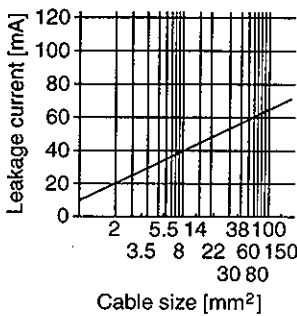

Fig.13.1 Leakage Current Example (Ig1,Ig2)for CV Cable Run in Metal Conduit
- Ig1: Leakage current on the electric channel from the leakage current breaker to the input terminals of the servo amplifier (Found from Fig. 13.1.)
- Ig2: Leakage current on the electric channel from the output terminals of the servo amplifier to the servo motor (Found from Fig. 13.1.)